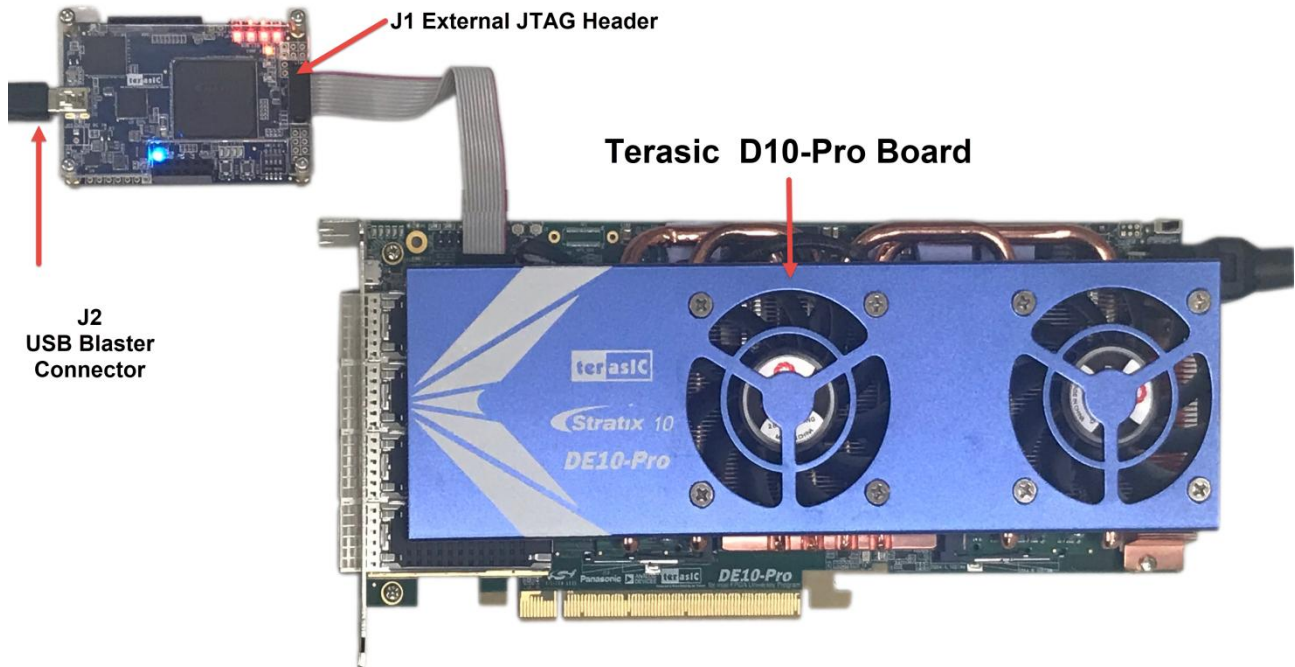

Figure 5-5 The flat ribbon cable connected to the T-Core board
2. Connect the other end of the flat ribbon cable to the 2x5 JTAG header on the DE10-Pro board, see Figure 5-5.